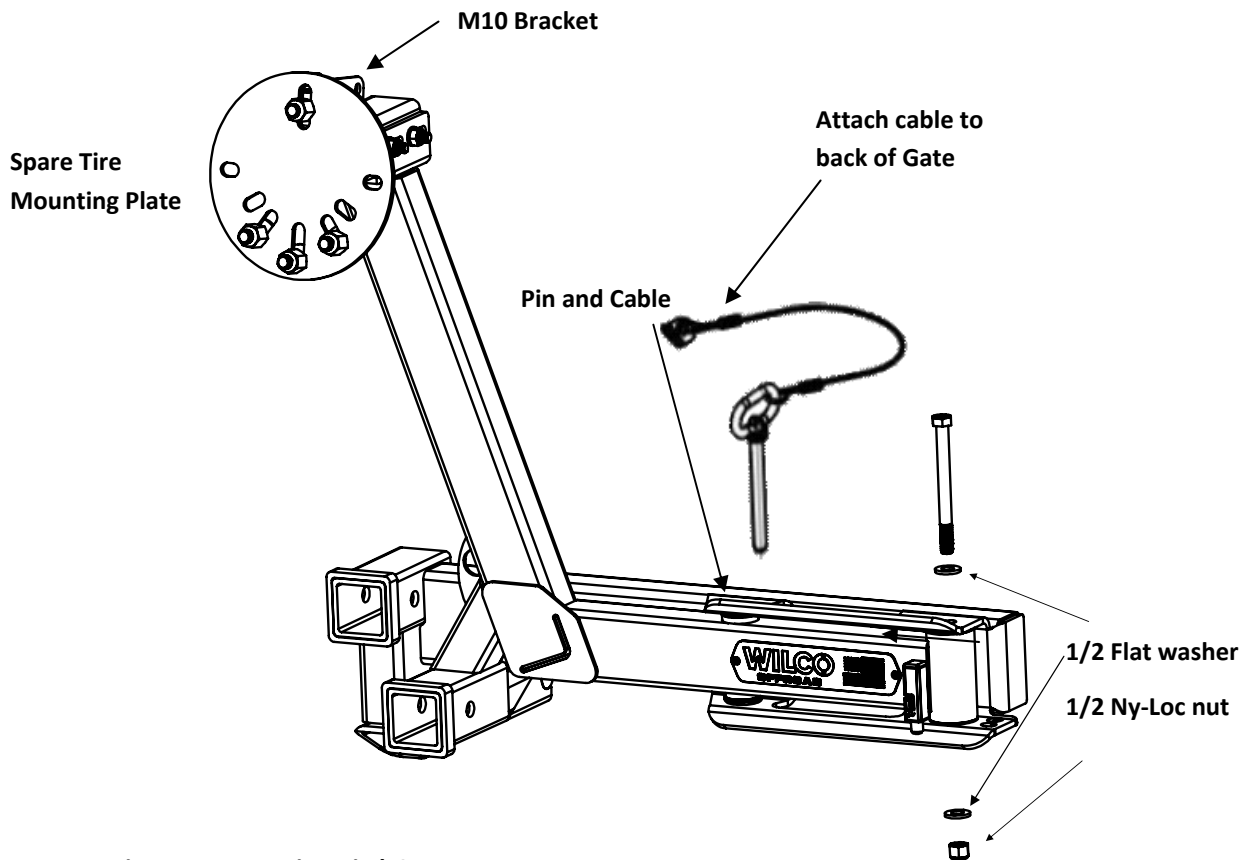

Figure 4. Mounting HitchGate
11. Attach the latch pin lanyard to the HitchGate using the supplied hardware. See Figure 4.